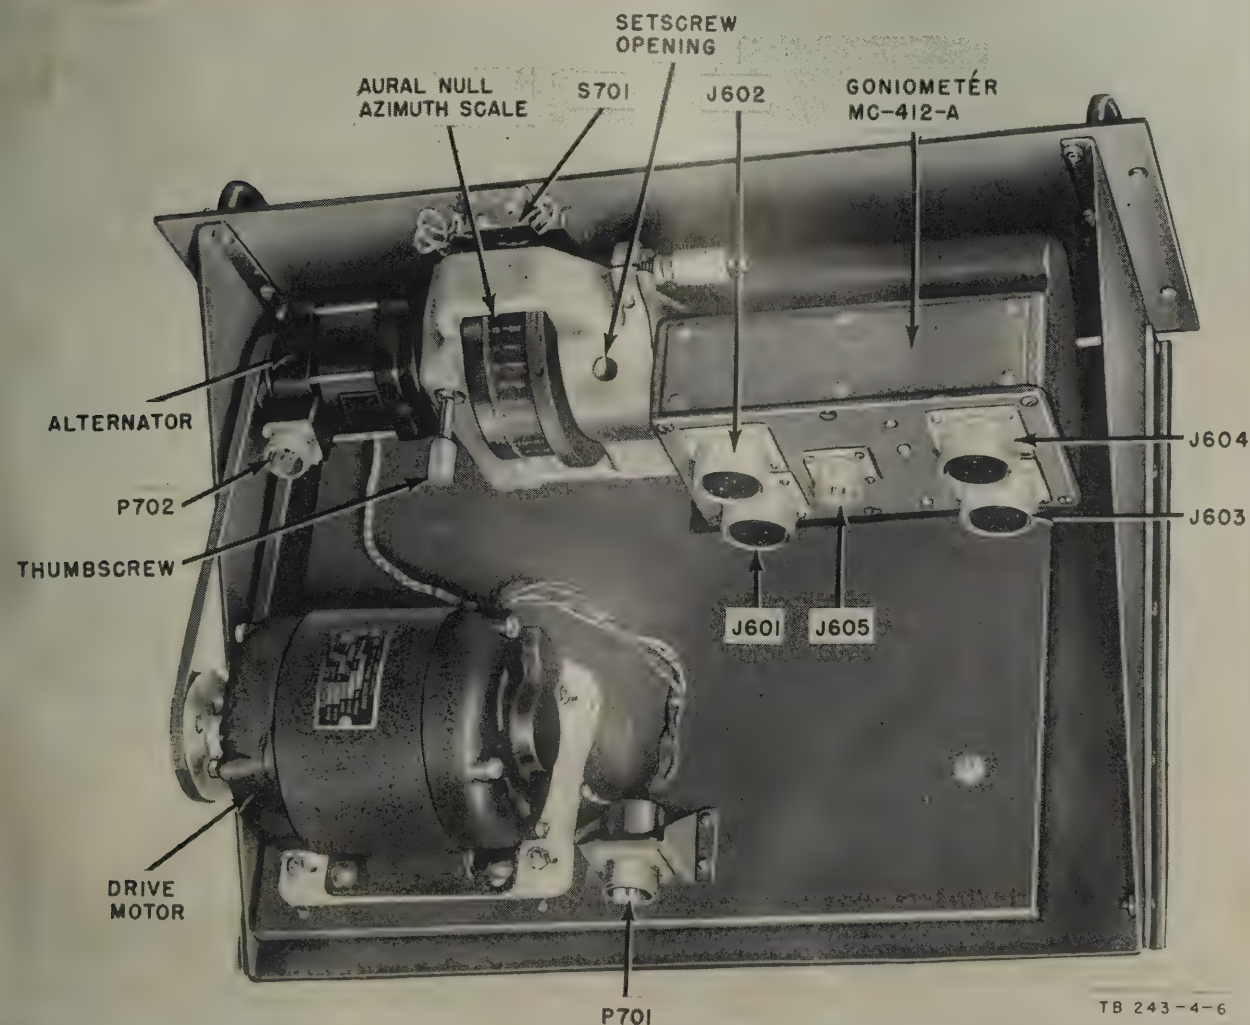

Figure 190. Goniometer Drive Unit RC-295, top view.
(3) The points of the pattern should read 0° and 180° on the azimuth scale. To correct any discrepancy, loosen the four screws on the front panel of Goniometer Drive Unit RC-295 and slide the unit forward about 6 inches. Loosen the thumbscrew (fig. 190) which holds the alternator in position, and rotate the alternator frame until the points of the bearing pattern are exactly at 0° and 180°. Tighten the thumbscrew, slide the drive unit back into position, and tighten the four panel screw.
(4) Turn ON the 90°, 180°, and 270° switches on Control Panel PN-31-A, and throw the STAND-BY - D.F. - SENSE switch to the SENSE position. Adjust the SENSE GAIN control to provide a good sense pattern. The pattern should point in the direction of the signal source.